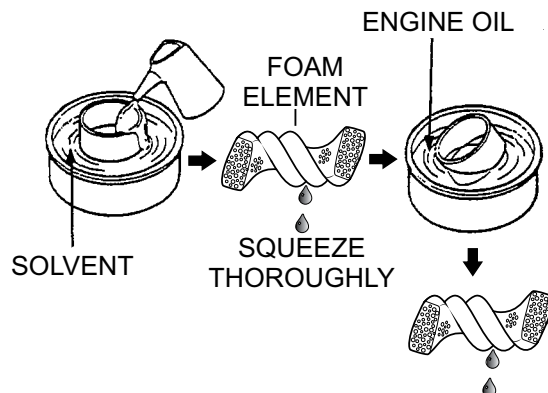

Figure 35. Cleaning Foam Element
3. Clean foam element (Figure 35) in warm, soapy water or non-flammable solvent. Rinse and dry thoroughly.